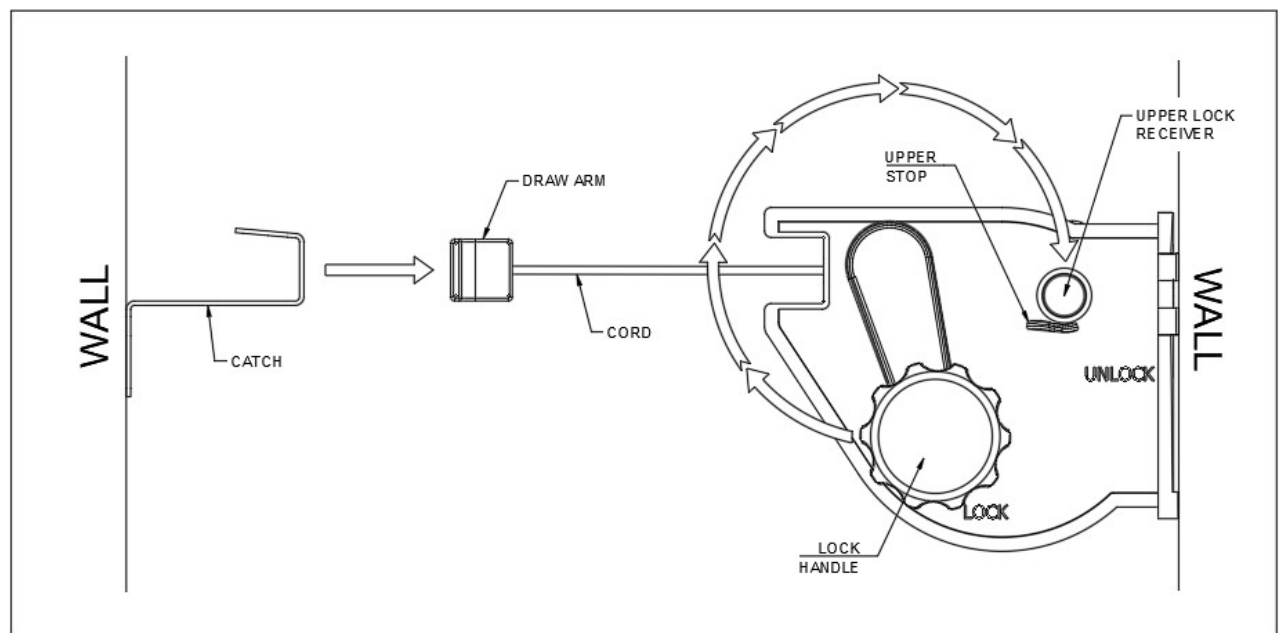

Fig 6. To Retract.
- Remove the draw arm from the receiving Catch and place back into the Cabinet for storage. See Fig 6 below.